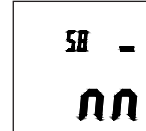

Fig. 2
2. Press the **SETUP** button a second time (see Fig. 2).